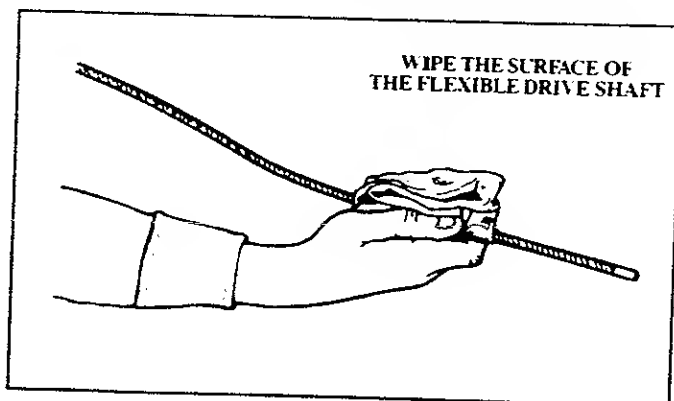

Figure 30
4. Using a clean cloth, wipe the surface of the Flexible Drive Shaft thoroughly to remove any old grease. Figure 30.